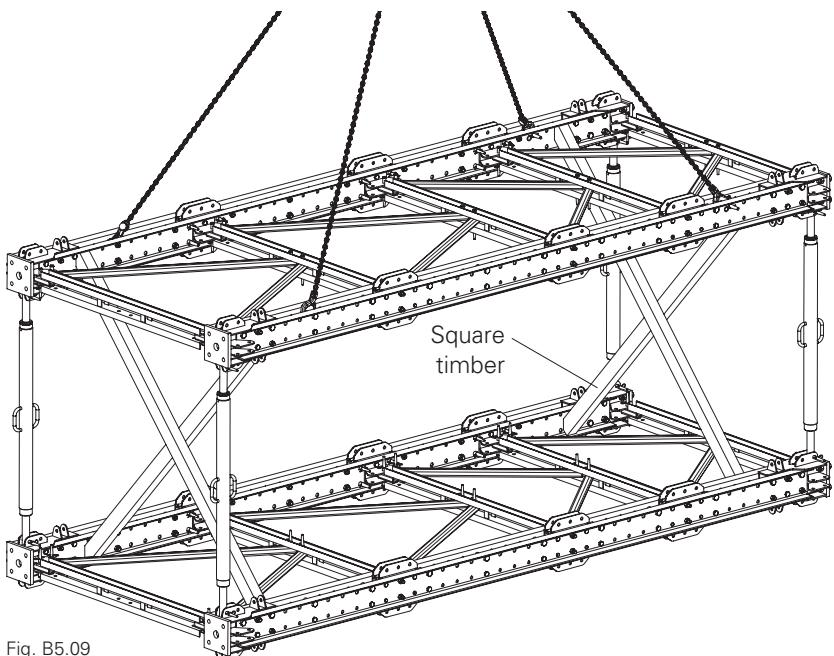

Fig. B5.09
4. Secure position, e.g. with square timbers.(Fig. B5.09)